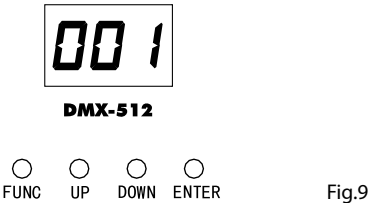

Fig.9
- Press the button FUNC so many times until the display shows the DMX address (fig.9).